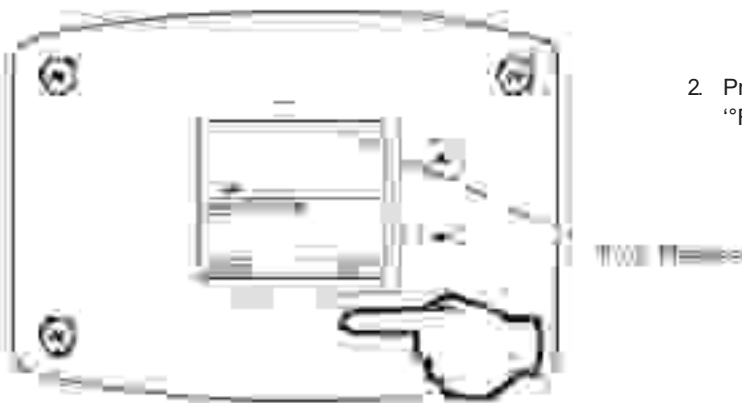

Fig. 61
2. Press 'Set' button to change temperature format. '°F/°C' symbol will flash in the water heater display (Fig. 61).